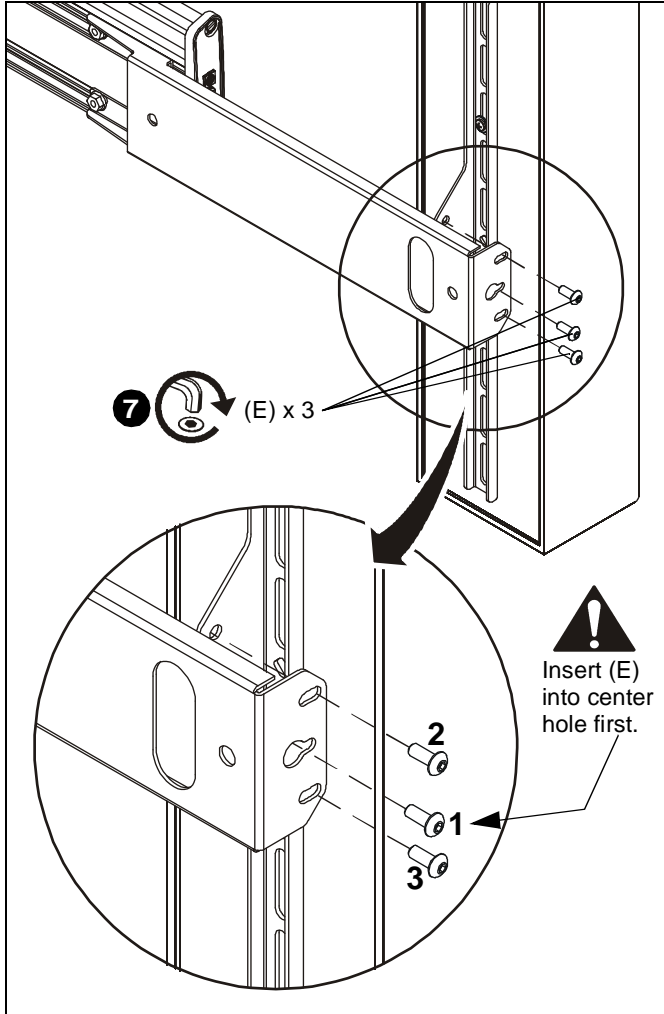

Figure 4
7. Fasten speaker bracket with attached speaker to sliding bracket using three 10-24 x 1/2" buttonhead cap screws (E). (See Figure 4)
NOTE: Insert first screw through center hole, and then follow with the top hole, and finish with the bottom hole. (See Figure 4)